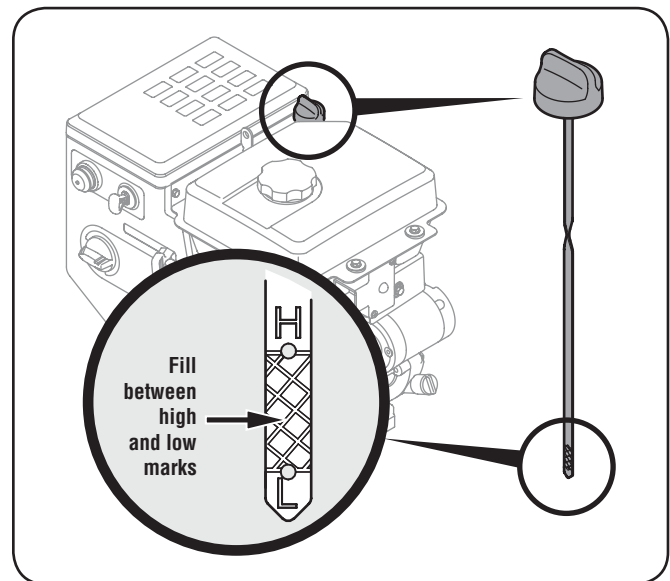

Figure 3-2
- Keep oil level between "H" and "L" marks on dipstick. See Fig. 3-2.
1. Remove the oil filler cap/dipstick and wipe the dipstick clean. See Fig. 3-2.
3. Remove the oil filler cap/dipstick. If the level is low, slowly add oil until oil level registers between high (H) and low (L), Fig. 3-2.
4. Loosen and remove the oil fill cap dipstick from the oil filler tube. Note the oil level, if oil reading on the dipstick is below the “L” mark, slowly add oil to reach the “FULL” level. See Fig. 3-2 or 3-3, whichever is applicable.